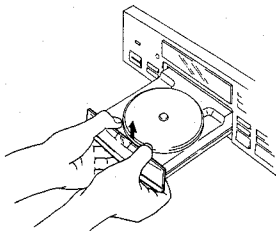

Fig. 1
- 1 Use nippers or other tool to cut the two sections marked ① in figure 1. Then remove the spacer.
- 2 While supporting the spindle motor shaft with the stopper, put spacer on top of the motor base (angled so it doesn't touch section ②), and stick the disc table on top (takes about 9kg pressure). Take off the spacer.
Hold the tray panel with your hands as the figure shown right, and grasp the tray with your thumbs and then lift the tray panel up while pulling it toward you with the other fingers. (Figs. 1 and 2)